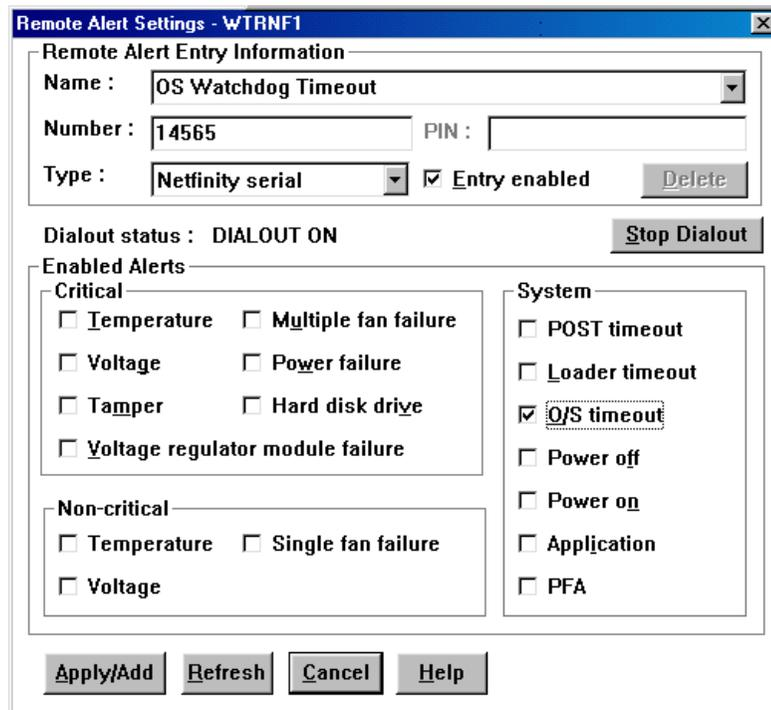

Figure 183. Remote Alert Settings
1. From the Advanced System Management window, double-click **Remote Alert Settings**. Figure 183 appears: